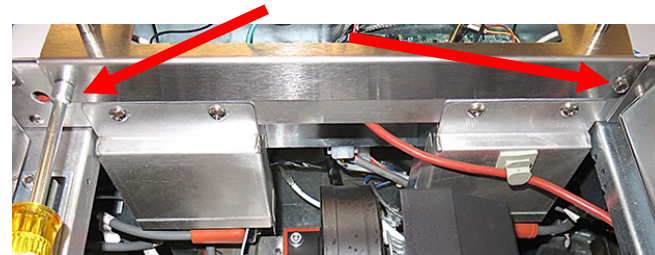

Figure 71
71. Reattach the controller bezel using two (2) screws on the bottom (see Figure 71).